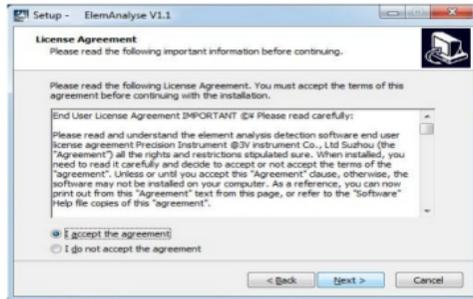

Figure 5-2
2. Click "Next" appears as shown in figure 5-2 interface.